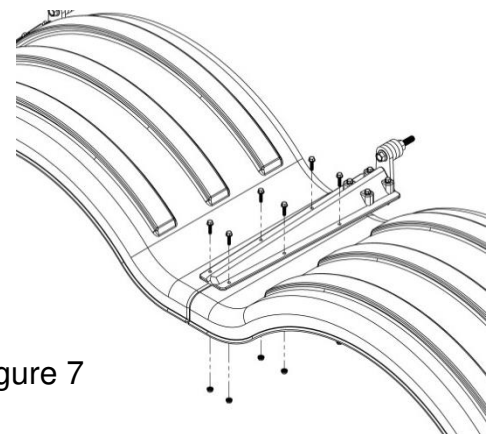

Figure 7
- E. Mount the center bracket so that it is directly over the seam where the fenders join together (Figure 7).